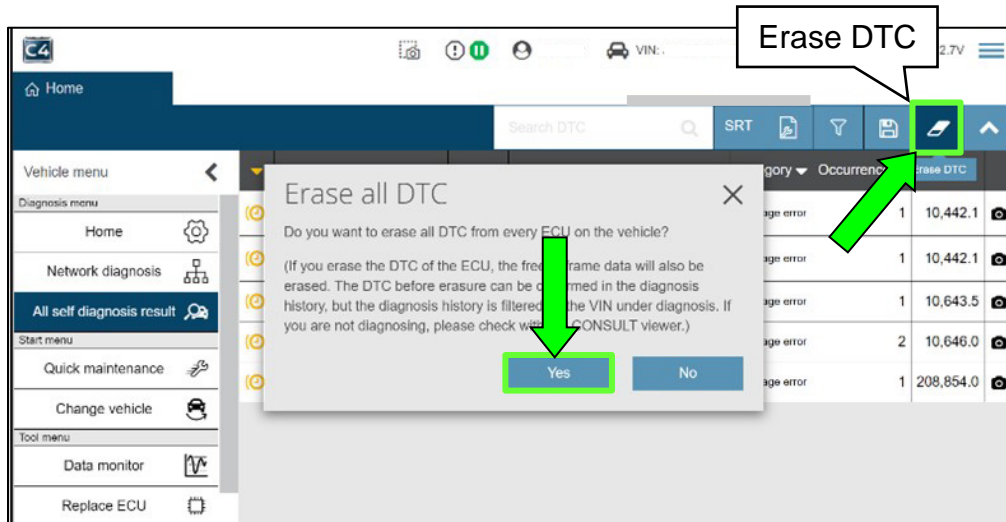

Figure 18
- Select the **“Erase DTC”** icon, and select **Yes** to erase (Figure 18).